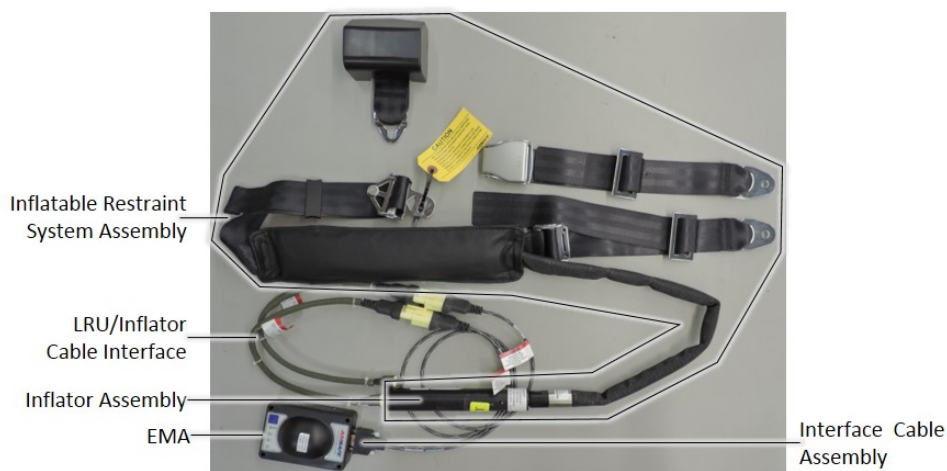

Figure 1. System
- (1) The system (Figure 1) provides the seat occupant with protection from serious head-impact injury during a survivable aircraft crash and enhances the seat occupant's ability to egress the aircraft. The system does not interface to any aircraft systems, including the aircraft power supply.
- (b) The interface cable assembly (Figure 1) connects to the EMA and the LRU/inflator cable interface. The LRU/inflator cable interface also connects to the inflator assembly.